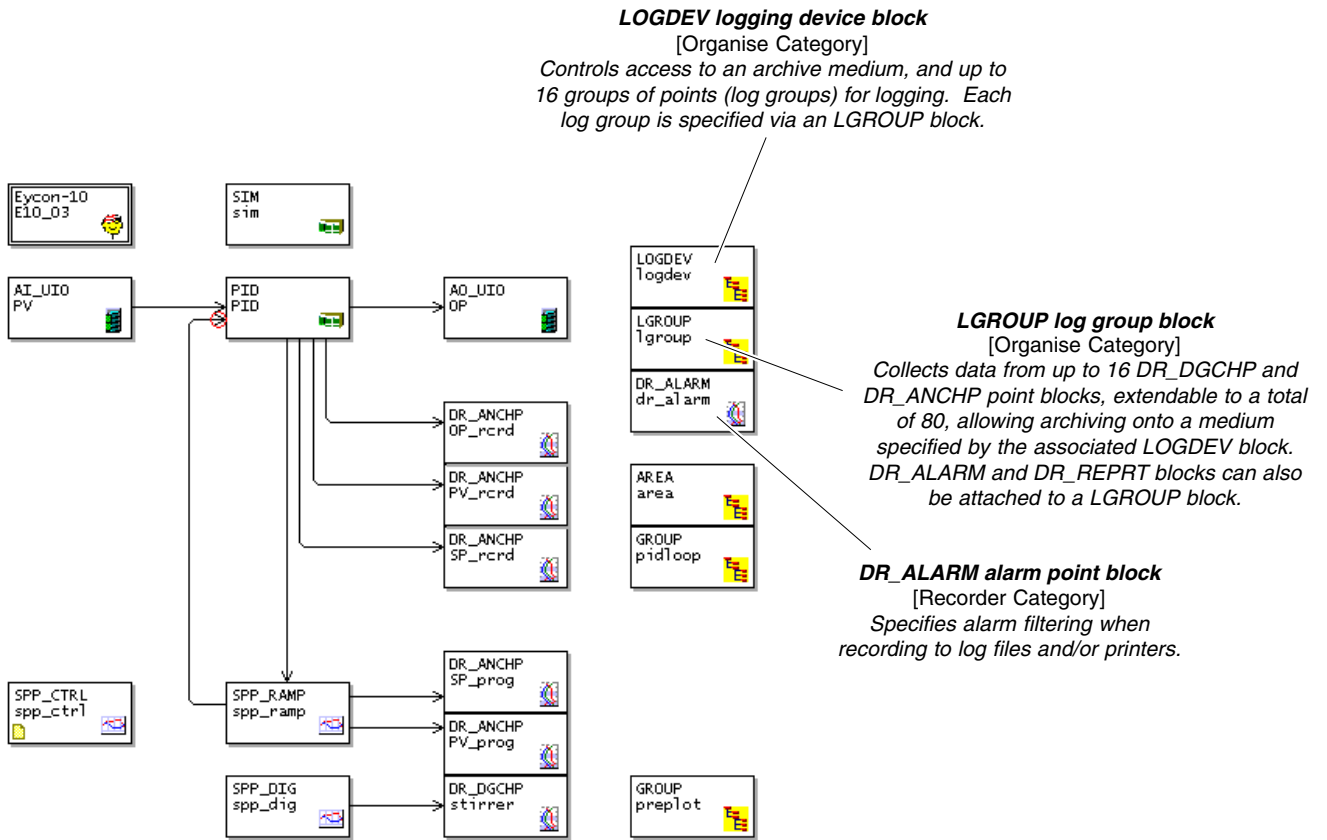

Figure 4-2 Setpoint programming strategy with added data logging
Figure 4-2 shows the setpoint programming strategy created in Chapter 3, but with three extra function blocks added to allow data logging to be performed.
- 1 In the LINTools database configurator, locate the required blocks as shown in Figure 4-2. The quickest way to do this is to open up the existing setpoint programming strategy as your starting-point, by double-clicking its icon in Explorer view, then simply add the three extra ‘logging’ blocks (LOGDEV, LGROUP, and DR_ALARM).
Note *(Block type) blockname.field.subfield format, referring to Figure 4-2
Table 4-2 lists the fields that should, as a minimum, be edited from their default values. For completeness, all such fields are shown in the table, including those edited in the original setpoint program strategy. Note that you must also edit the **Name** fields in all blocks, according to Figure 4-2 as you wish